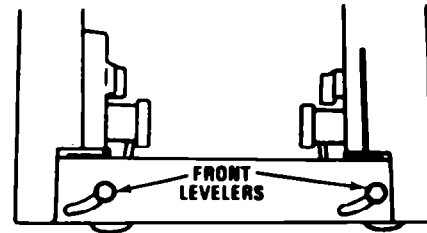

FIGURE 13
- Loosen the screws to the front levelers (do not remove screws). Pivot the levelers to the floor and retighten screws. See Figure 13.